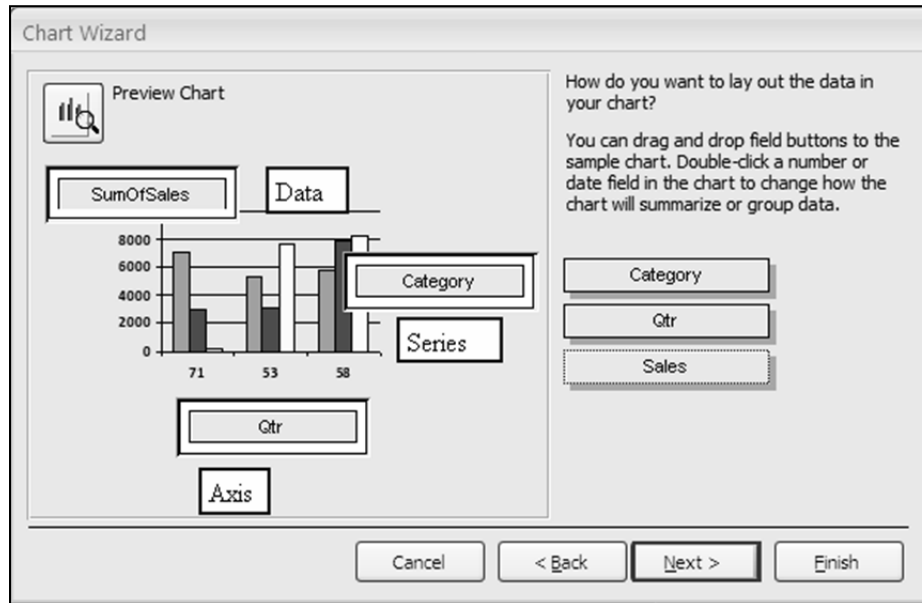

Fig. 2.5.5. Drag the fields to chart
7. In *Preview Chart* window drag field *Qtr* to *Axis*, *Category* to *Series* and *Sales* to *Data* as shown in Fig. 2.5.5. Click *Next* to advance.